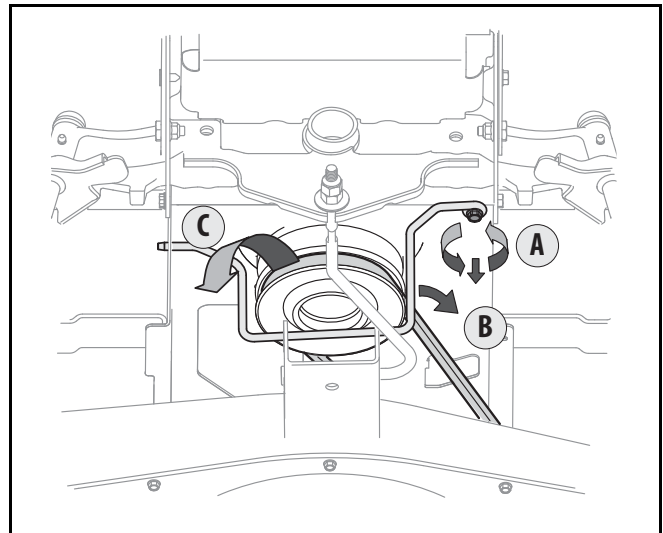

Figure 23
5. Remove the belt keeper rod from around the engine pulley by removing the self-tapping screw (A) that secures it. See Figure 23.